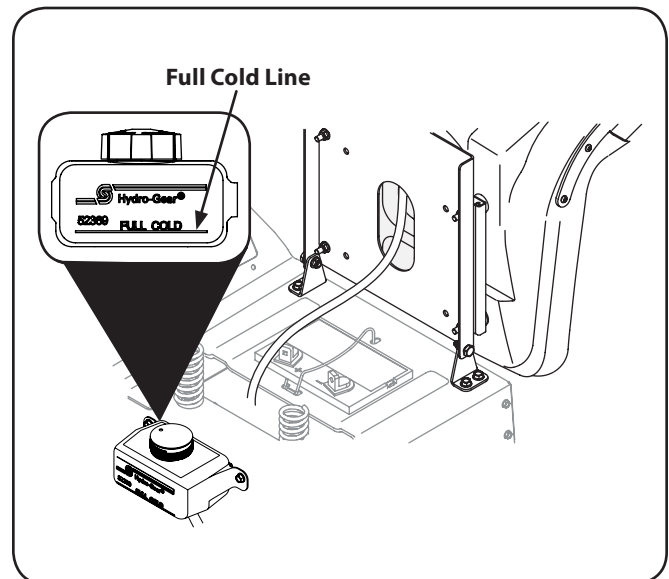

Figure 6-3
1. Pivot the operator's seat forward and clean the reservoir cap and the area around the cap to prevent debris from contaminating the transmission oil. See Fig. 6-3.
2. Turn the reservoir cap counterclockwise to re-move, then check the oil level in the reservoir. Oil should be visible at the bottom of the cup, but the oil level must NOT be above the "FULL COLD" line. See Fig. 6-3. **DO NOT FILL THE RESERVOIR.**